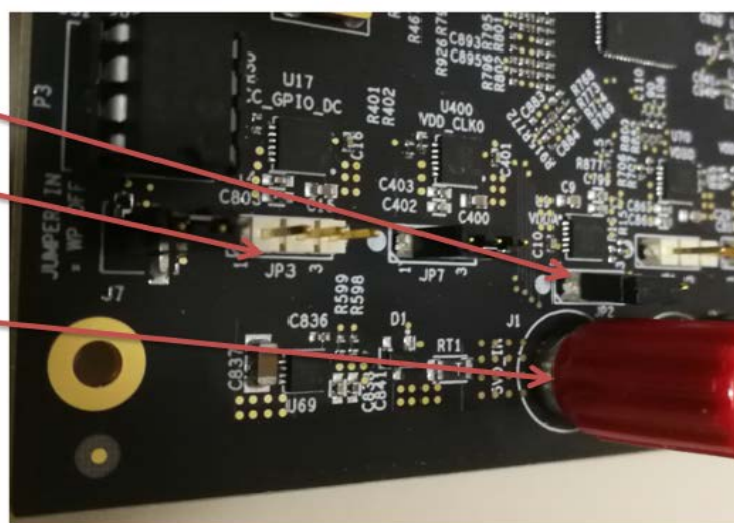

Figure 5. Board Setting for Default Operation
The evaluation board can be operated off EEPROM, which has stored all information including firmware and a default configuration data. A default operation provides a sanity check on the board before running the board through the Timing Commander tool. Please set the board to the following default conditions (for jumper and switch positions, see Figure 5):
1. Power up the board and set the main serial port in I2C mode by GPIO9 = "high". See Figure 5 for the GPIO9 position. Connect the board to PC.